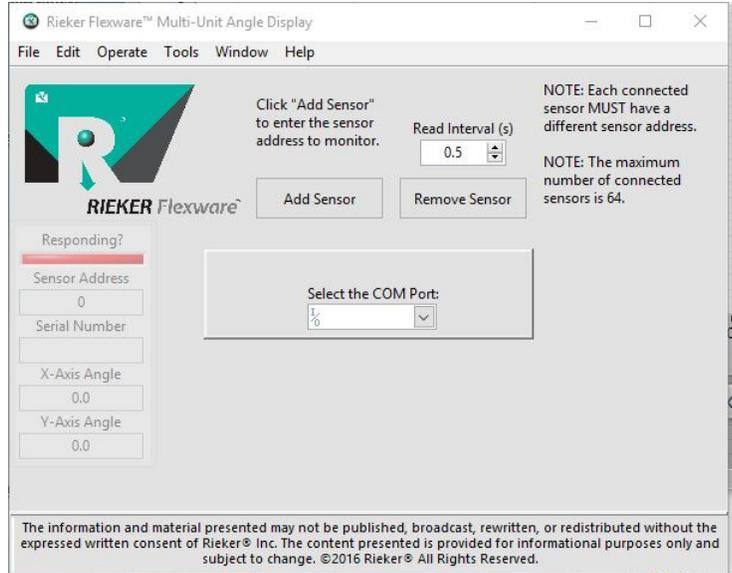

FIGURE 12: Multi-Unit Angle Display Start
1. If not already initialized, select the COM port determined earlier in this guide. (Figure 12)